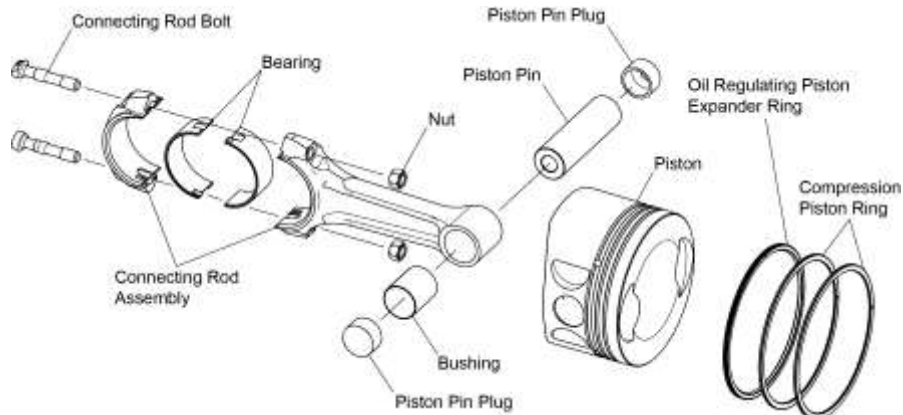

Figure 20
NOTICE: During removal of each piston pin (Figure 20), the piston will disconnect from the connecting rod. Support the connecting rod to prevent damage to the connecting rod and crankcase.
- A. Support the piston and remove the two piston pin plugs (Figure 20) and piston pin from the piston.